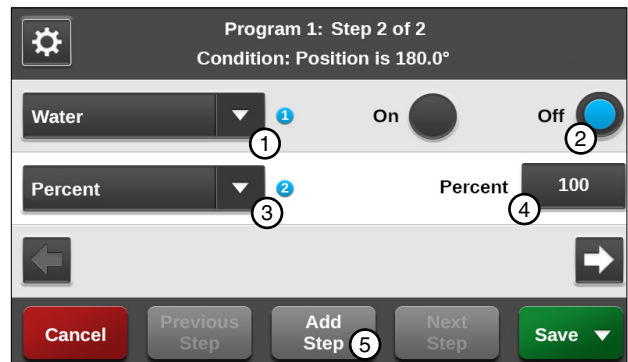

Figure 109-2 1. Water Command 4. Percent
6. Enter the commands to execute at this position. Refer to Figure 109-2.